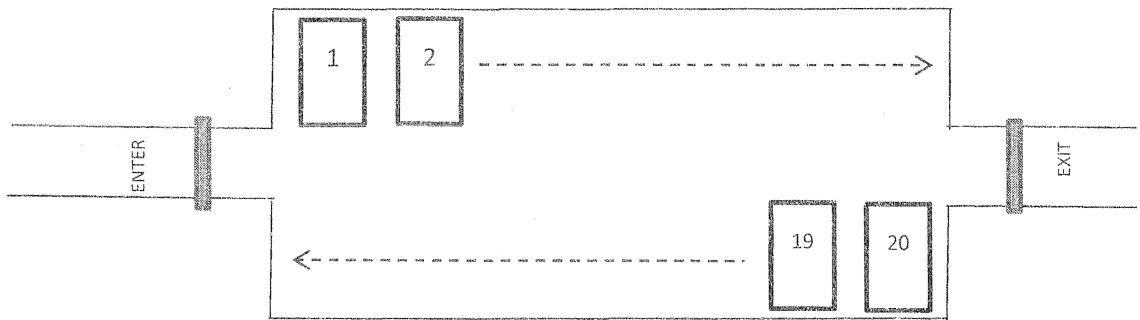

Figure Q5: Parking Area
- Q5. Figure Q5 shows a parking area which has one entrance gate and one exit gate. The park can only accommodate 20 vehicles. At the entrance gate, a green bulb is kept ON as long as the parking slots are available. When the park is full, a red bulb is ON and remains its state. Vehicles are not allowed to enter through the exit gate or exit through the entrance gate. The gates are electrically motorized. Both gates are to be fully automatically operated by detecting vehicles. It is required to avoid all possible accidents which could occur at the time of opening and closing the gates.